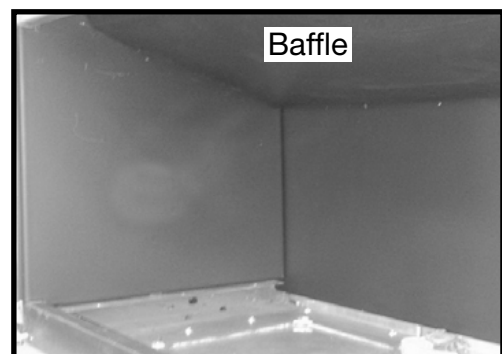

Figure 44: Baffle mounts.
4. To hold panels in place, install the baffle, from the burner kit, by resting the back flange on top of the back panel and use two screws to secure the front of the baffle to the top of the firebox, seen in Figure 44.